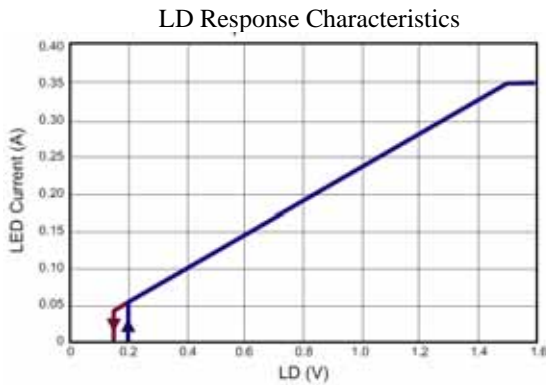

Fig.2. Typical linear dimming response of an TB9961 LED driver
When the voltage at LD falls below 1.5V, the internal 275mV reference to the constant-current feedback becomes Overridden by $V_{LD} \cdot 0.185$. As long as the current in the inductor remains continuous, the LED current is given by the equation (3) above. However, when V_{LD} falls below 150mV, the GATE output becomes disabled. The GATE signal recovers, when V_{LD} exceeds 200mV. This is required in some applications to be able to shut the LED lamp off with the same signal input that controls the brightness. The typical linear dimming response is shown in Fig.2.